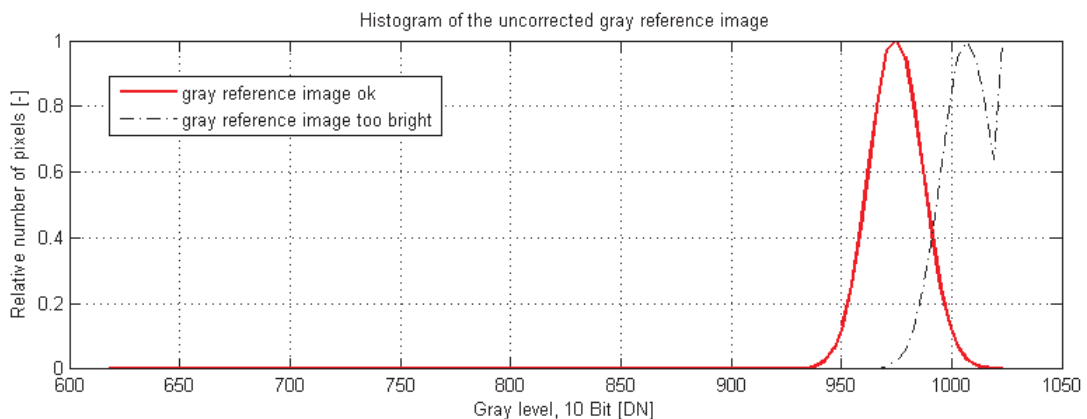

Figure 4.23: Proper grey reference image for gain correction
- When looking at the histogram of the grey reference image, ideally there are no grey levels at full scale (1023 DN @ 10 bit). All pixels that are saturated white will not be properly corrected (see Fig. 4.23).